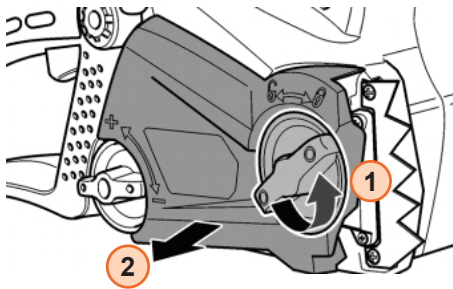

Figure 1
When attaching the chain, observe the specified running direction! Place the chainsaw on any suitable flat surface (see Figure 1). Detach the hand wheel (1) and remove the chain cover (2).